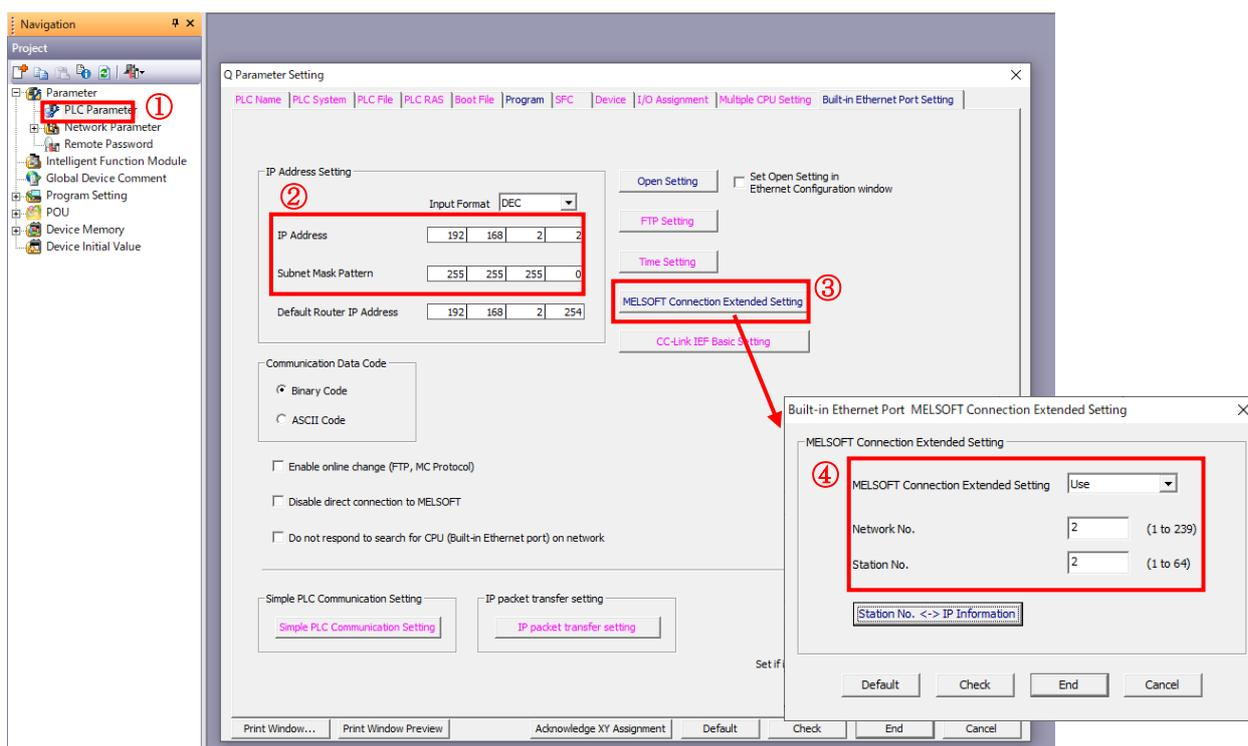

Figure 3-5 Built-in Ethernet module parameter setting (Child PLCs)
① to ④ in Figure 3-5 show the setting procedures of the built-in Ethernet module.
- ① After connecting the PLC, click "PLC Parameter" on the navigation tree menu.
- ② Enter the IP address and subnet mask on the Q Parameter Setting screen.
- ③ Open MELSOFT Connection Extended Setting.
- ④ Select "MELSOFT Connection Extended Setting: Use" and enter the network number and station number.